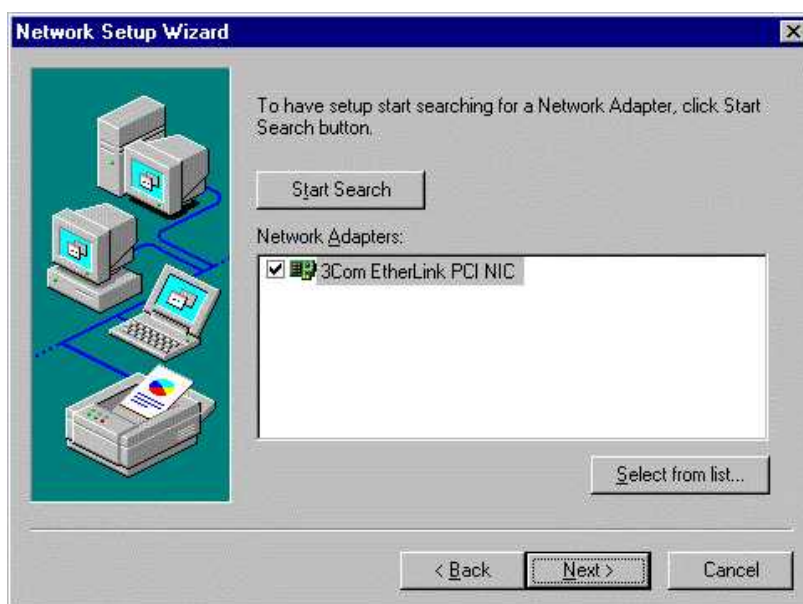

Fig. 8-8 Select network adapter
- In the "Network Setup wizard" dialog box, select the "3Com EtherLink PCI NIC" network adapter and confirm with "Next" (Fig. 8-8).